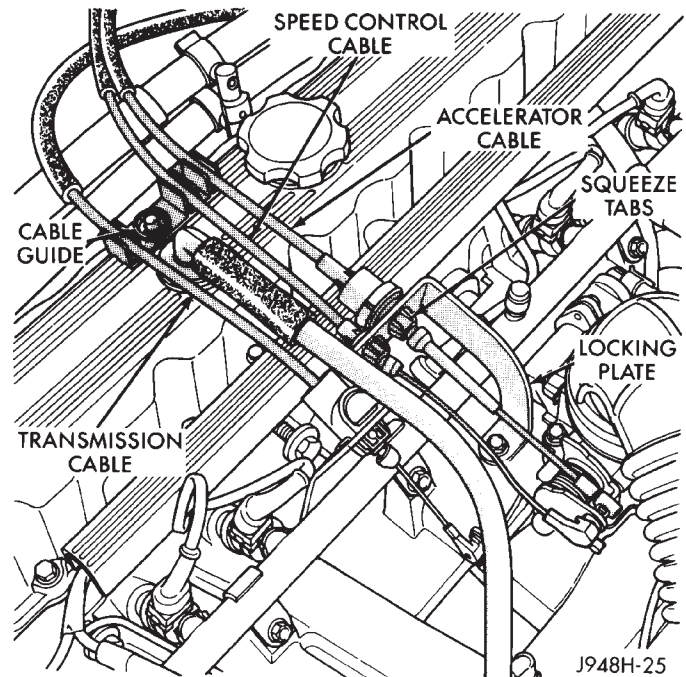

Fig. 12 Servo Cable to Locking Plate Remove/Install
- (3) Squeeze tabs on speed control cable and push out of locking plate (Fig. 12). Unclip cable from cable guide.